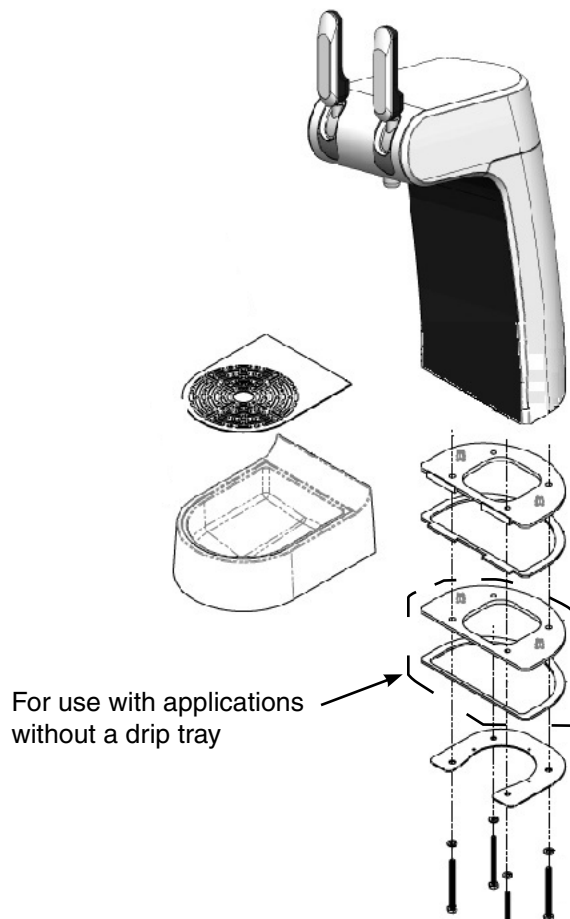

Figure 1
A template has been provided with the tower that details the location of the holes required for mounting the tower to the counter top. A copy of the drawing of this template is included for reference (see page 12). Once the counter top has been prepared for installation, route the tubing bundle from the tower through the hole in the counter top, then position the tower onto the counter top. Make sure that the gasket retainer and the gasket are in place. Using the supplied four (4) mounting screws, four (4) lock washers, and mounting plate, attach the tower to the counter top. Attach the drip tray (included with tower) to the clips at the base of the tower as shown in Figure 1.